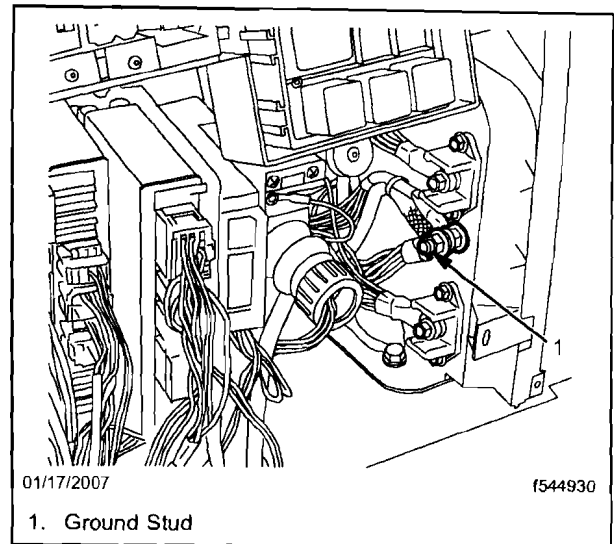

Fig. 13, Central Connection Location
8. Attach a ring-terminal to the other end of the brown wire, then connect it to the ground stud, at the central connection location. See Fig. 13.